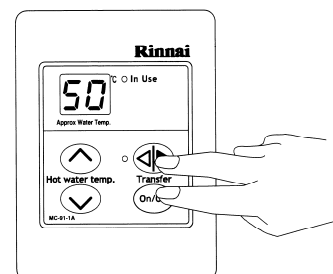

Fig. 1
**STEP 1:** On the Master controller only press and hold the **Transfer** and **ON/OFF** buttons simultaneously (see Fig. 1) until a “beep” is heard (approx. 5 seconds).